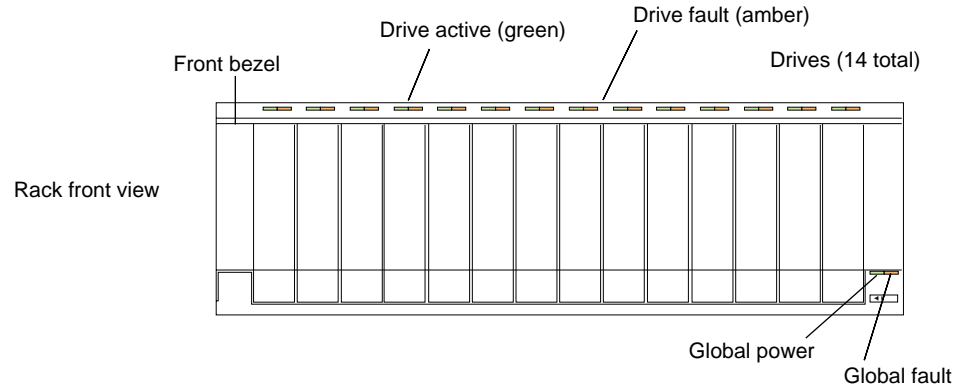
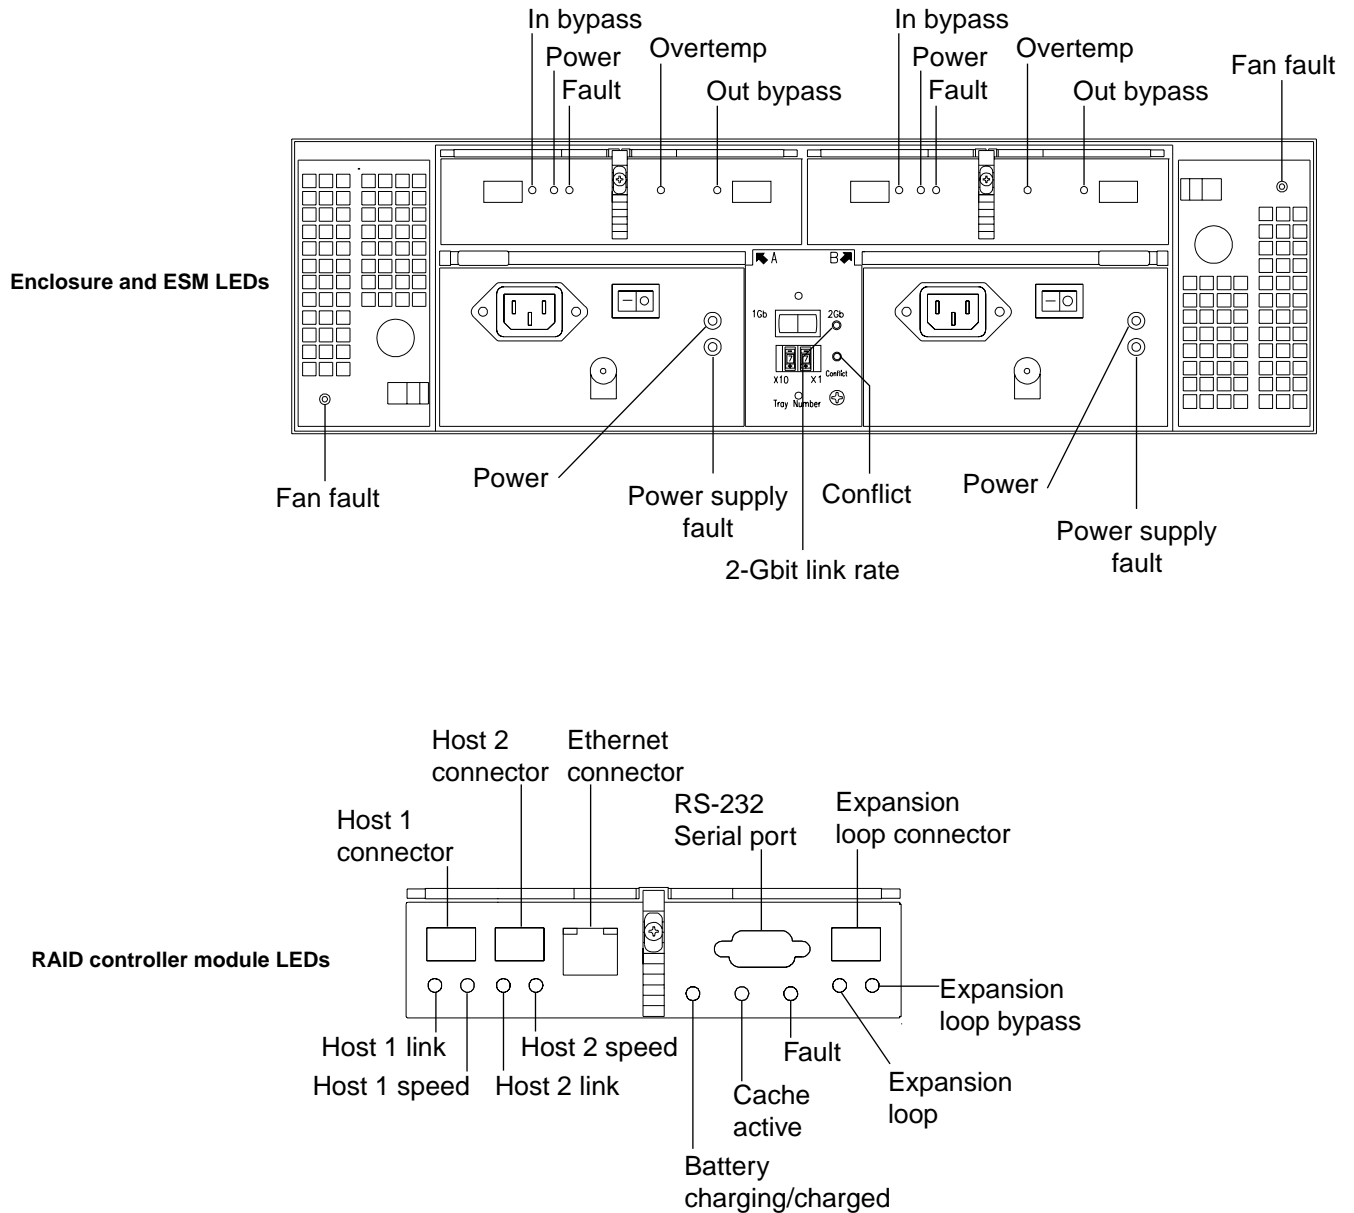

Figure 3-2 Storage Enclosure Front Indicator Lights
Figure 3-3 Storage Enclosure Rear Indicator Lights
In the expansion enclosures, the overtemp indicator on the environmental status module illuminates if the temperature reaches 40 °C (104 °F). If both power supplies shut down, the overtemp indicator cannot come on. See Figure 3-3 on page 39 for the location of the overtemp indicators on expansion enclosures.
3. Make sure that all the enclosure fault indicators are off (see Figure 3-2 on page 37 and Figure 3-3 on page 39).
Important: Except as described in the notes following Figure 3-2 and Figure 3-3, an amber light indicates a component failure. If you see an amber indicator, run TPSSM to diagnose and repair the problem.
This section describes the front indicator lights for the controller and expansion enclosures. Figure 3-2 shows the front indicators for the controller and expansion enclosures.
This section describes the rear indicator lights for the controller and expansion enclosures. Figure 3-3 shows the rear indicators on the expansion enclosure and the RAID controller. Controller enclosures have RAID controller LEDs, but not ESM LEDs.